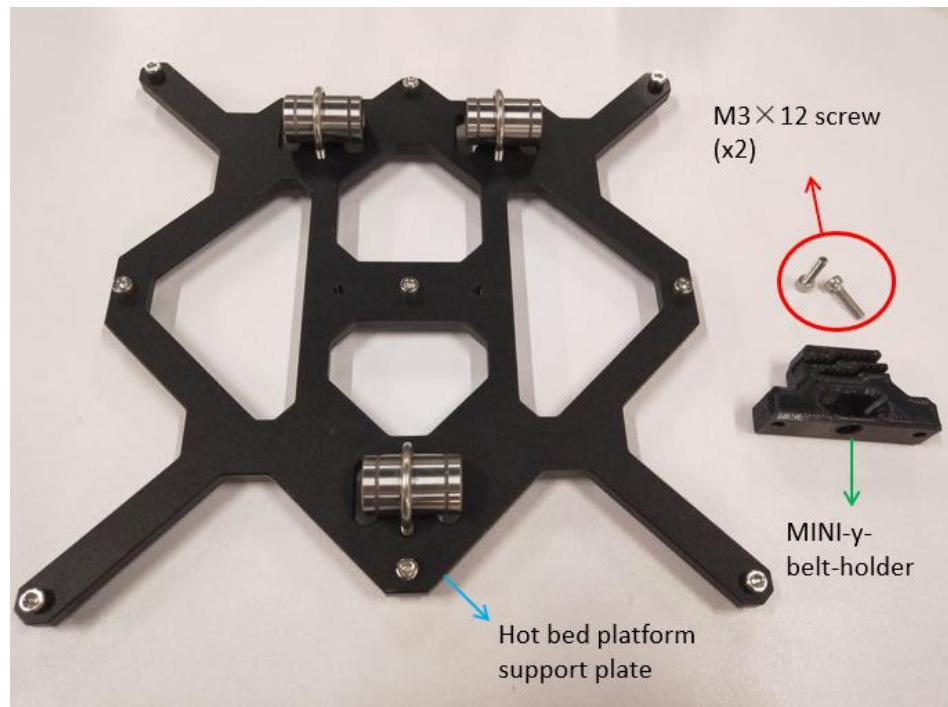

Figure 1.7.1
**Step 1-7-1:** As shown in Figure 1.7.1, prepare the materials and check whether the quantity of materials is correct, prepare for the next installation.